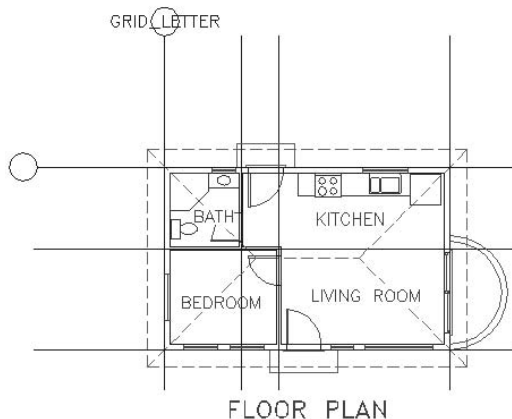

FIGURE B.2: The first attribute definition placed in the grid circle
14. Click OK. This returns you to the drawing to pick an insertion point. Back in the drawing, use Center Osnap and click the circle at the top of the grid. GRID_LETTER is centered over the circle (see Figure B.2).